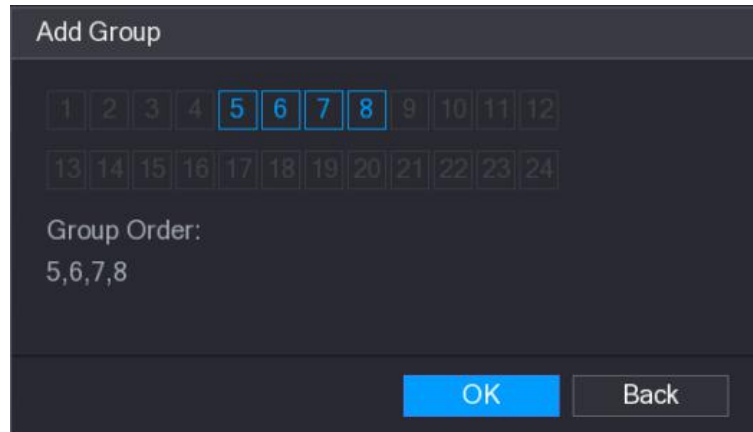

Figure 5-48
Step 2 Select the channels that you want to group for tour. See Figure 5-48.